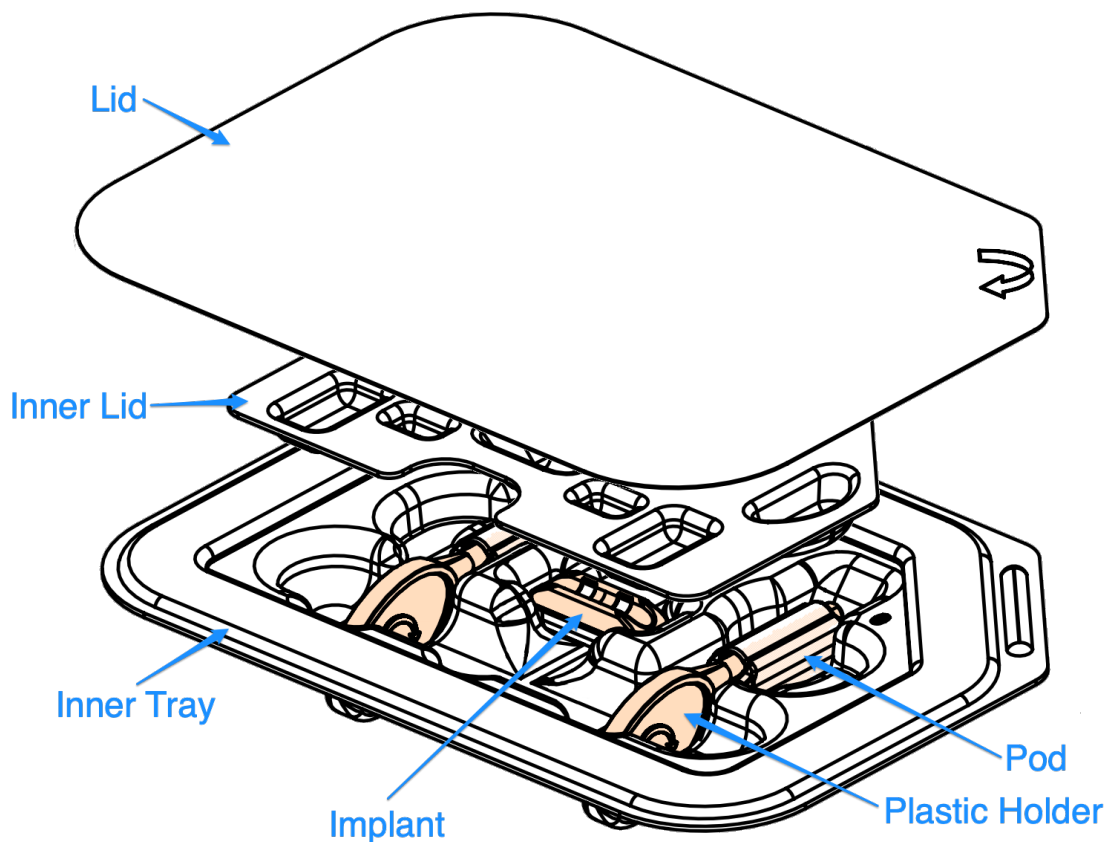

Figure 4 - Inner Tray Contents
The SetPoint System implantable components are supplied sterile, using an ethylene oxide (EO) process, and are only intended for single use. The Implant and two Pods (provided on plastic holders) are packaged in a sealed inner tray covered with an inner lid that prevents them from moving during transit (see Figure 4). The second Pod is provided for use only as a backup if the first Pod is damaged during deployment or while being sutured closed and is identical to the first Pod. The plastic holder is only intended for use during storage and must be discarded before the Pod is implanted. It is not meant for introduction into the surgical field.
5. Remove the inner lid and discard (see Figure 4 on page 7).
4. Remove a Pod from its plastic holder and discard the plastic holder (see Figure 4 on page 7).